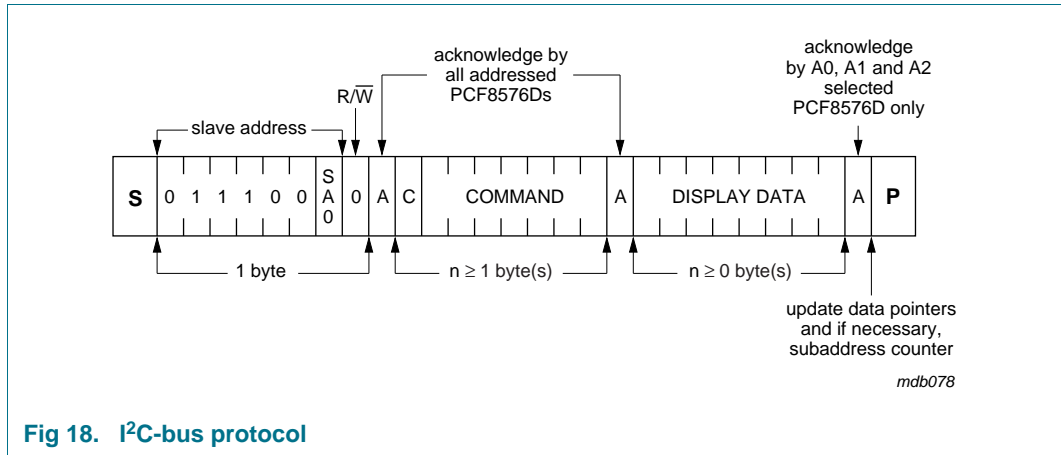

Fig 18. I2C-bus protocol
The I2C-bus protocol is shown in Figure 18. The sequence is initiated with a START condition (S) from the I2C-bus master which is followed by one of two possible PCF8576D slave addresses available. All PCF8576Ds whose SA0 inputs correspond to bit 0 of the slave address respond by asserting an acknowledge in parallel. This I2C-bus transfer is ignored by all PCF8576Ds whose SA0 inputs are set to the alternative level.